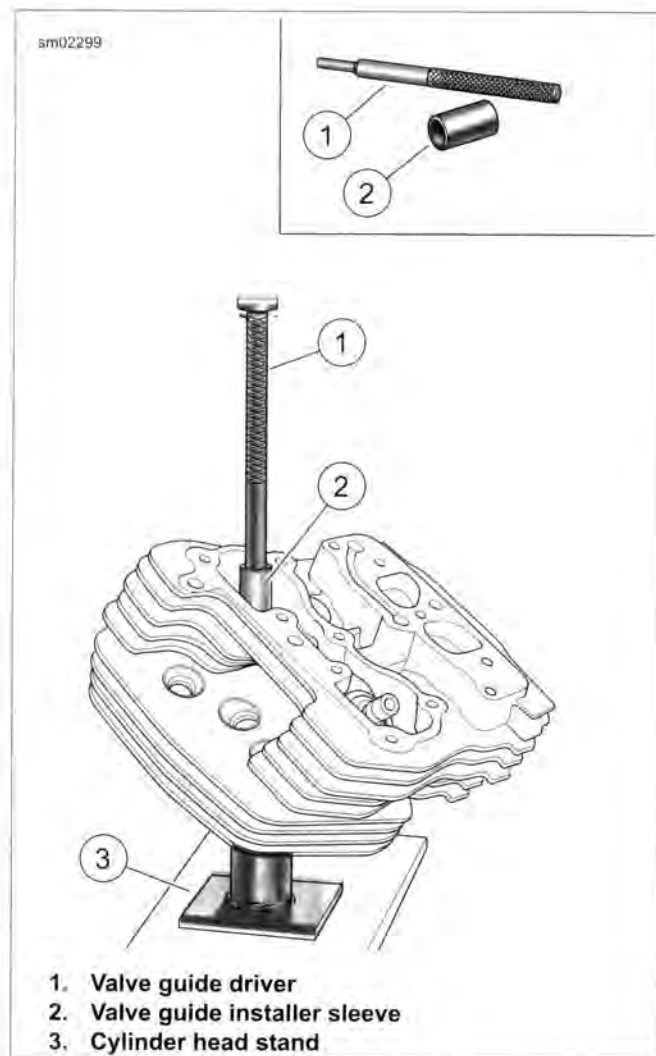

Figure 3-39. Install Valve Guide
- d. See Figure 3-39. Place VALVE GUIDE INSTALLER SLEEVE (Part No. B-45524-2A) (2) over valve guide. Insert valve guide driver (1) into sleeve.